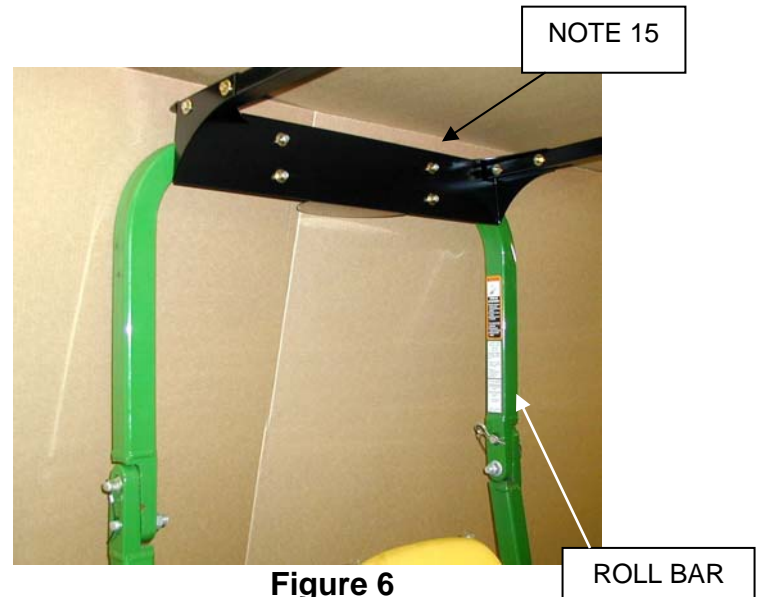

Figure 6
15. Set frame structure onto machine and secure with (2) 3/8" square U-bolts 3-18000 and center frame against the roll bar. See Figure 6.